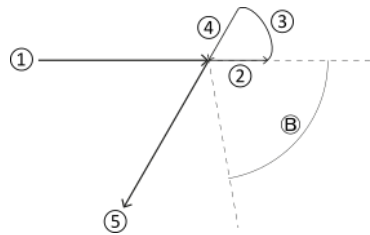

Figure 11.5: Joint type: Joint 2
Legend of figure 11.5 on page 168 : (1) Pre-joint line, (2) Tail, (3) Jump line, (4) Head, (5) Post-joint line, (B) Min angle for joint 2